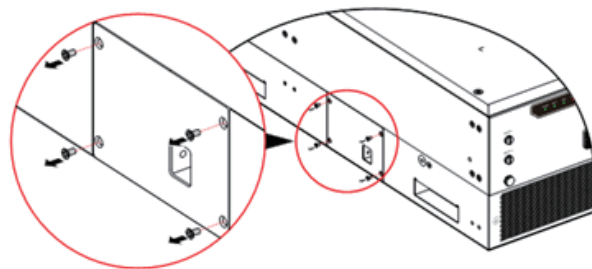

Figure 35 Loosen the screws of fan cover
Step2. Loosen the screws of the fan module, as shown in Figure35.